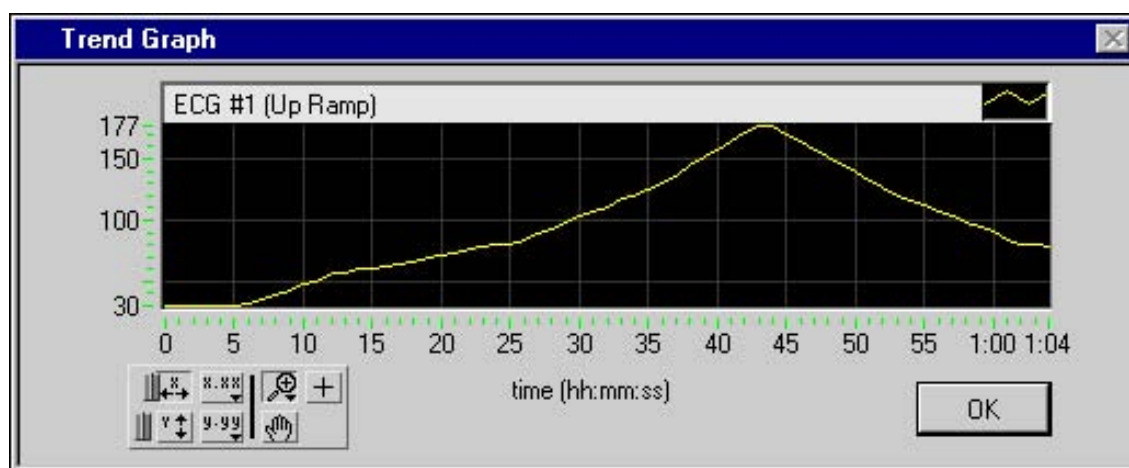

Figure B-10. Trend Graph of Beat per Minute (BPM) Calculation
- Click on the **Trend** button in the Trending area to see the trend graph like the one in Figure B-10. Try viewing the Trend Graph at different times as the trend values change over time. For more information about trending, refer to Chapter 3, Acquiring Data.